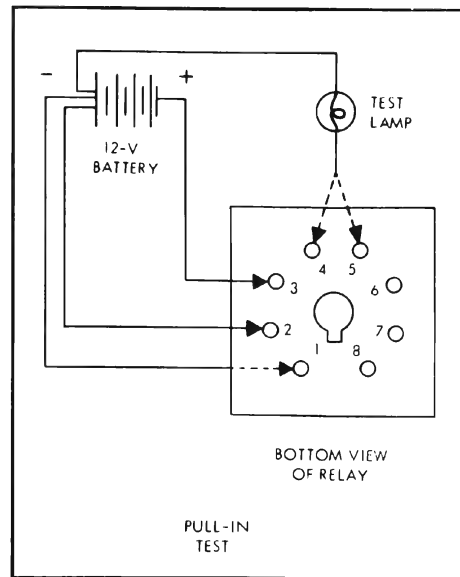

Figure 11-181—Relay Pull-In Check
(1) Connect pins 1 and 2 to the negative terminal of a 12 volt battery. See figure 11-181.
(2) Connect pin 3 to the positive terminal of the battery
(4) Perform Pull-In check.